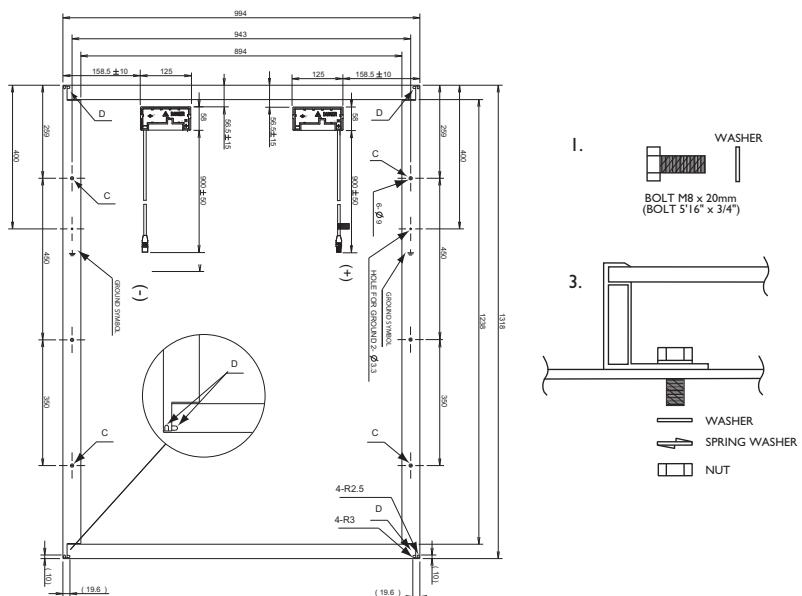
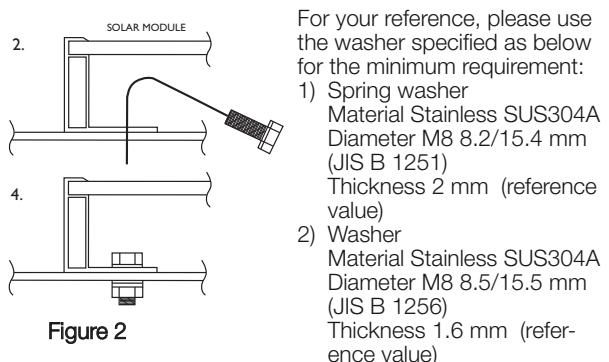
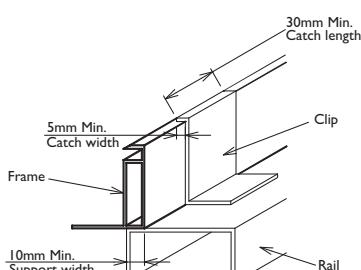

Figure 1
Figure 2
Figure 3
Mounting Using Frame Bolt Holes (Figures 1 & 2)
The modules may be fastened to a support using the bolt holes in the bottom of the frame at location "C", as shown in Figure 1 (back view of the module) and Figure 2 (mounting detail). The module should be fastened with four (4) M8 (5/16") bolts. Take care during installation to not block the drain holes (D) shown in Figure 1.
The modules may be mounted using clips (clamps) designed for solar modules as shown in Figures 3 and 4. Note that the clip positions are important – the clip centerlines must be between 3.2" (81mm) and 13" (330mm) from the end of the module. The module must be supported along the length of the long edge, and should overlap the array rail by at least 0.4" (10mm). Note that the mounting clips should meet the minimum dimensions (catch width of 0.2" (5mm) and length of 1.2" (30mm)) as shown in Figure 3. The array rails must support the bottom of the modules and must be continuous pieces (no breaks in the rail). Take care during installation to not block the drain holes (D) shown in Figure 1.
The modules may also be mounted using clips on the long sides of the module when the array rails are perpendicular to the long sides, as shown in Figure 5. The clip centerlines must be between 3.2" (81mm) and 13" (330mm) from the ends of the module. Note that the mounting clips should meet the minimum dimensions (catch width of 0.2" (5mm) and length of 1.2" (30mm)) shown in Figure 3. The array rails must support the bottom of the modules and must be continuous pieces (no breaks in the rail). Take care during installation to not block the drain holes (D) shown in Figure 1.